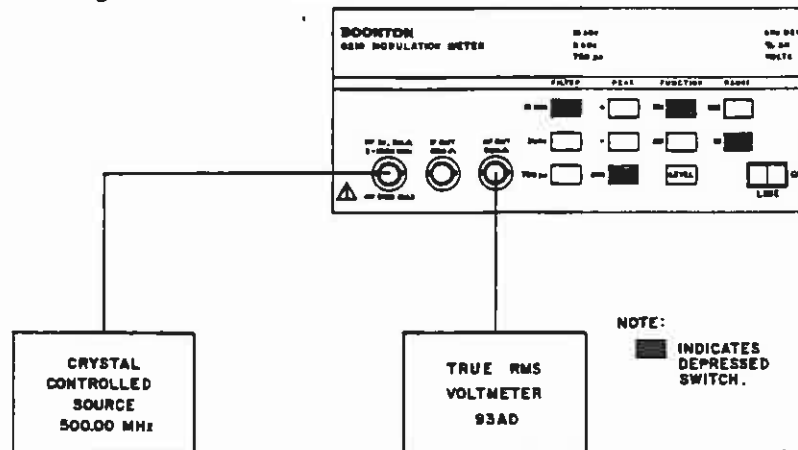

Figure 2-7. Test Setup: Residual F.M. and Residual A.M.
1. Connect the 8210 and test equipment as shown in Figure 2-7.
3. Depress the switches of the 8210 as indicated in Figure 2-7.
1. Connect the equipment as shown in Figure 2-7.